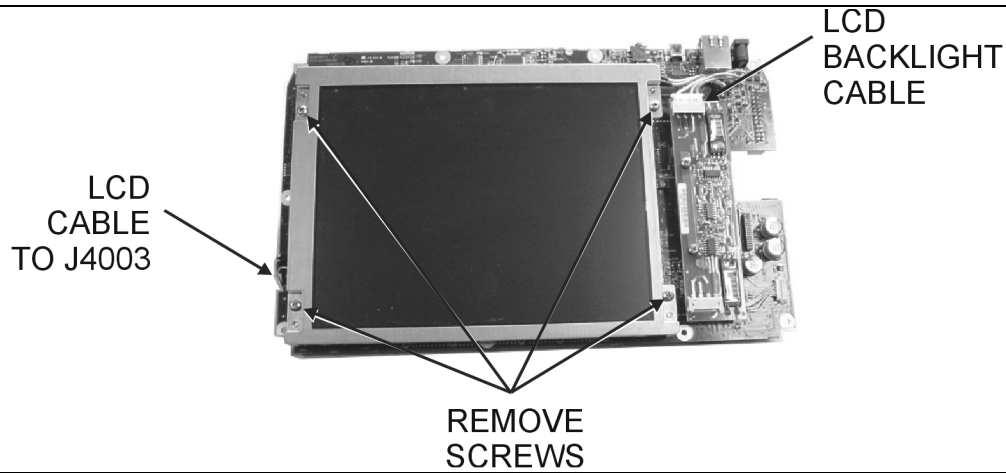

Figure 15. LCD Assembly Replacement
4. Use a Phillips screw driver to remove the four screws securing the LCD to the Main PCB assembly (Figure 15).